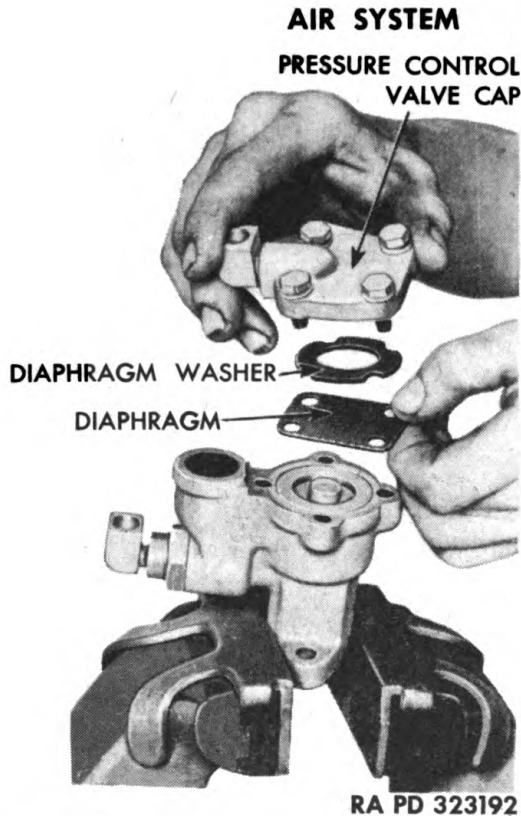

Figure 196 — Removing Cap and Diaphragm from Pressure Control Valve
(1) **REMOVE DIAPHRAGM** (fig. 196). Clamp base of valve body in a vise. Remove four cap screws and lock washers attaching diaphragm cap, and remove cap diaphragm washer and diaphragm.
(3) **INSTALL DIAPHRAGM** (fig. 196). Set diaphragm, diaphragm washer, and cap over piston, and make secure to valve body by installing four cap screws and lock washers.